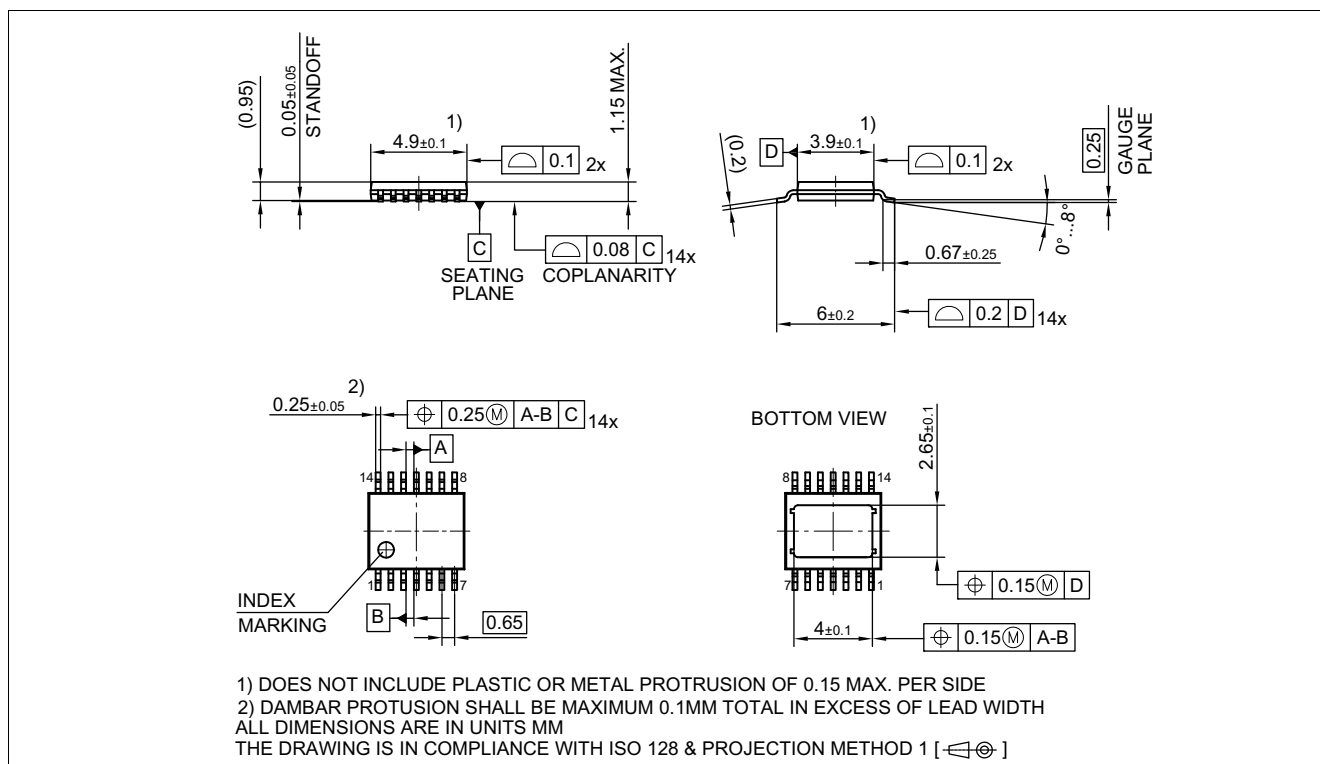
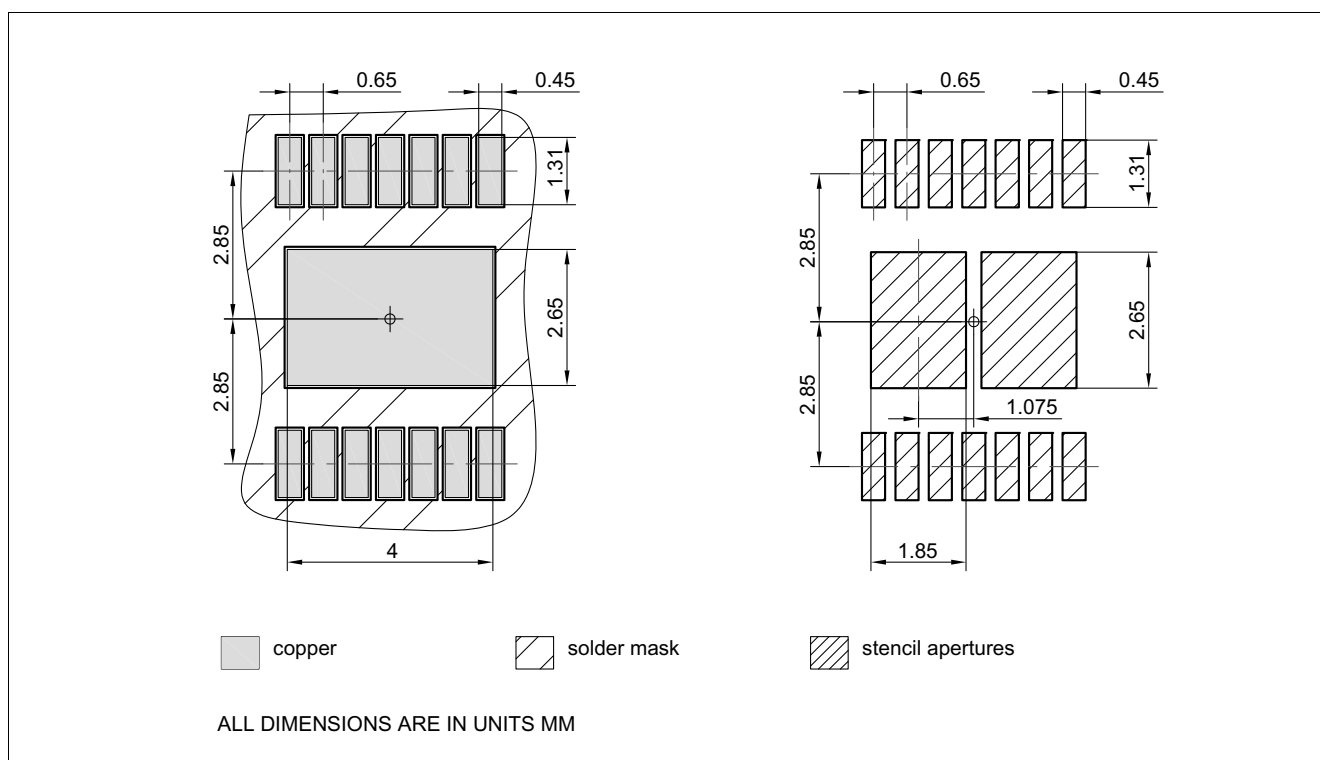

Figure 38 PG-TSDSO-14 (Thin (Slim) Dual Small Outline 14 pins) Package Outline
Figure 39 PG-TSDSO-14 (Thin (Slim) Dual Small Outline 14 pins) Package pads and stencil
1.02 , 2019-02-05	Figure 9, Figure 10 updated Page 1: updated (figure product) Table 22 updated (punctuation) Chapter 9.3, Chapter 9.3.1 updated (typo) Page 1: updated (Package PG-TSDSO-14-22 → Package PG-TSDSO-14) Figure 38 updated (PG-TSDSO-14-22 (Thin (Slim) Dual Small Outline 14 pins) Package Outline → PG-TSDSO-14 (Thin (Slim) Dual Small Outline 14 pins) Package Outline) Figure 39 updated (PG-TSDSO-14-22 (Thin (Slim) Dual Small Outline 14 pins) Package pads and stencil → PG-TSDSO-14 (Thin (Slim) Dual Small Outline 14 pins) Package pads and stencil) Table 1 updated (corrected typos in table Product Summary: k_{ILIS}: 14700 → 14500), $I_{VS(OFF)}$: 1 → 0.3 μA) Table 1 updated (Symbol: $I_{VS(OFF)}$ → $I_{VS(OFF)_85}$) P_6.5.23.1 updated (Symbol: $I_{VS(OFF)}$ → $I_{VS(OFF)_85}$) P_6.5.23.2 updated (Symbol: $I_{VS(OFF)}$ → $I_{VS(OFF)_150}$)